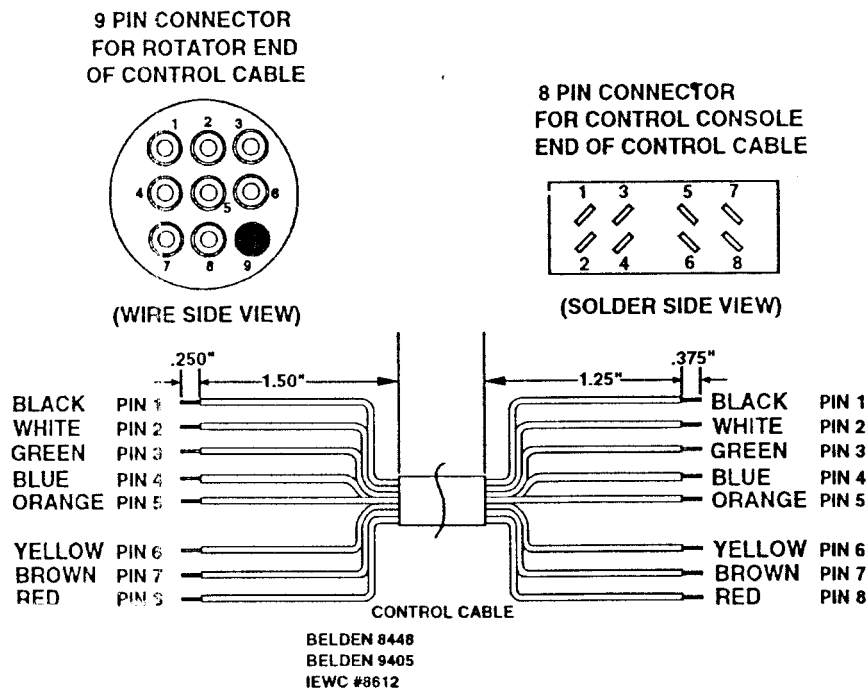

Figure 3 Control Cable Connector Attachments 1-5
3. If this is a new installation, assemble the rotator cable as shown in Figure 3, or purchase a pre-assembled cable. Temporarily attach the mounting screws to the bottom of the rotor unit. These will be used to support the rotator during bench-testing.